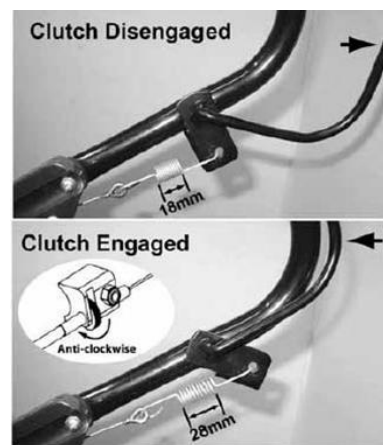

figure 17. Clutch adjustment
Adjusting the Drive Cable-refer figure 17.
- ★ Measure the length of the clutch spring(18mm) when the clutch engagement lever is in the disengaged position. Refer to figure17.
- ★ Push the clutch engagement lever forward until it touches the handlebar (drive engaged position). The clutch spring should be stretched to 28mm (10mm longer). Refer to figure 17.
- ★ To adjust the clutch spring stretch rotate the thumb wheel (A) on the cable support block (one click at a time).
Refer to figure 17.